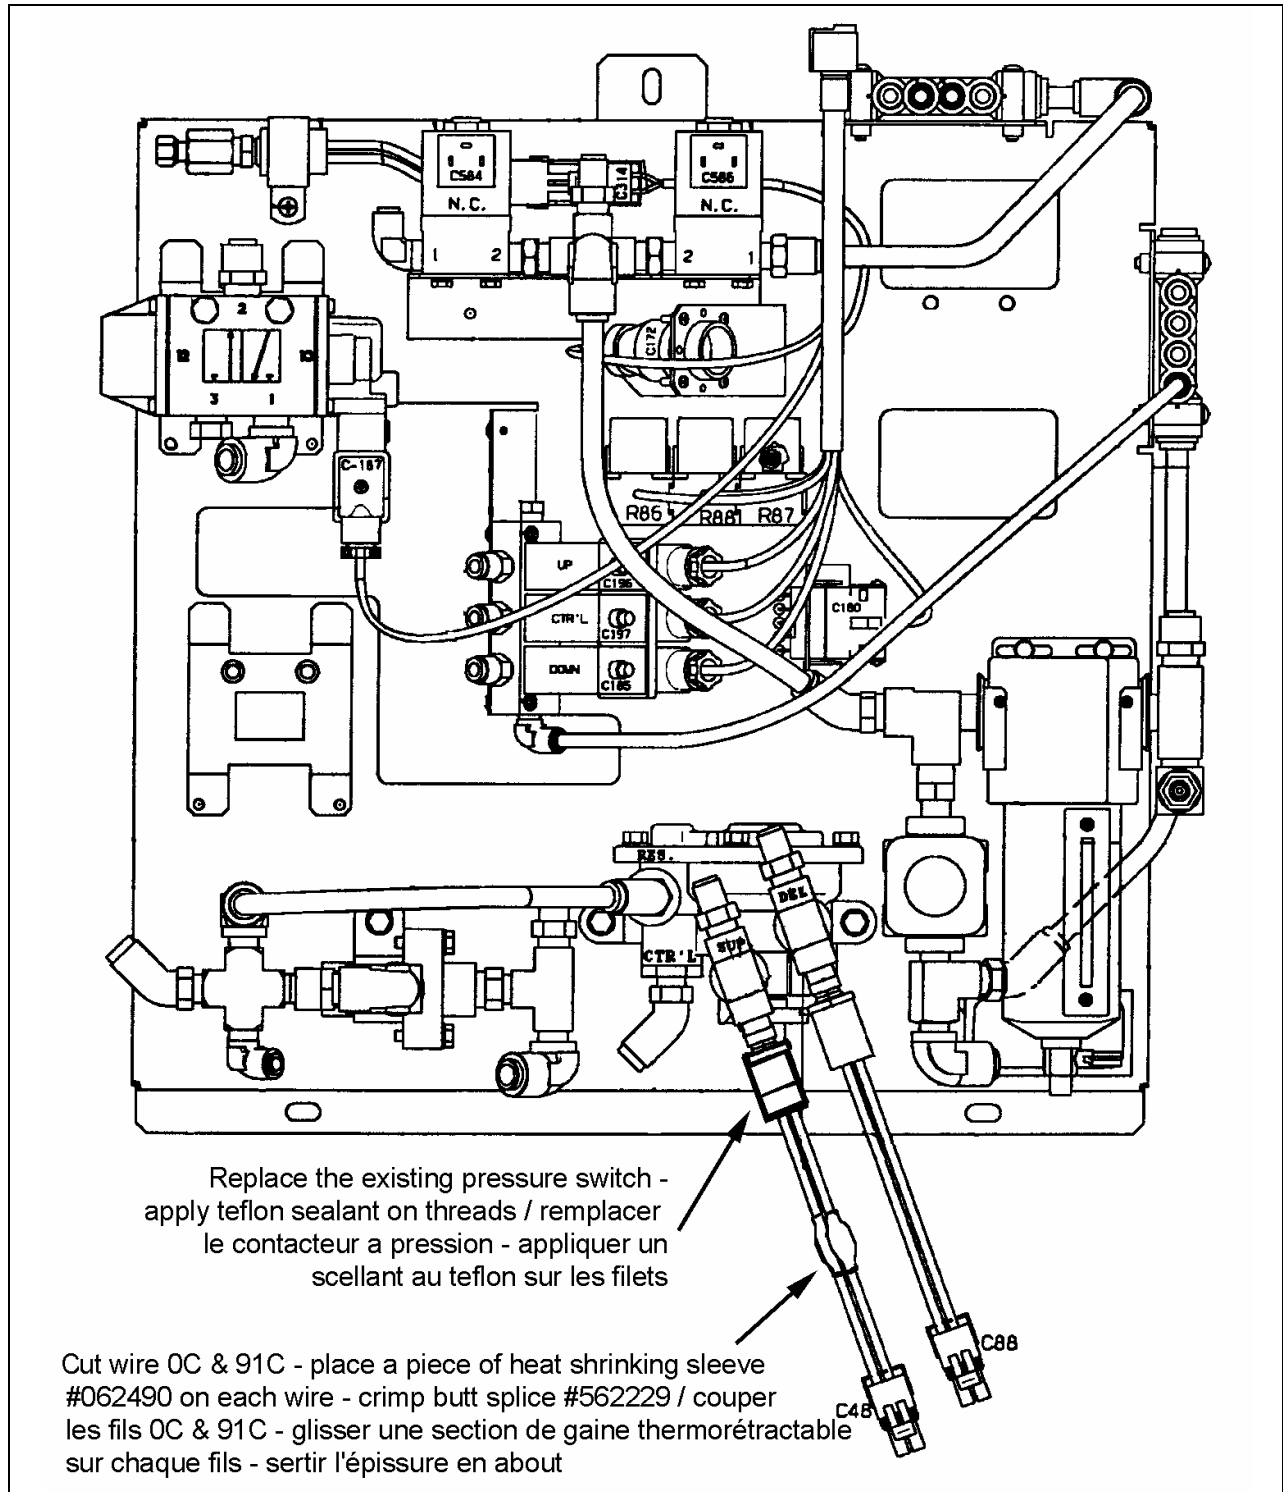

Figure 1: PNEUMATIC ACCESSORY PANEL INSIDE FRONT SERVICE COMPARTMENT
1. Inside front service compartment, locate the pressure switch on "SUPPLY" outlet port on the pneumatic accessory panel (figure 1).
3. Unscrew the pressure switch (figure 1).